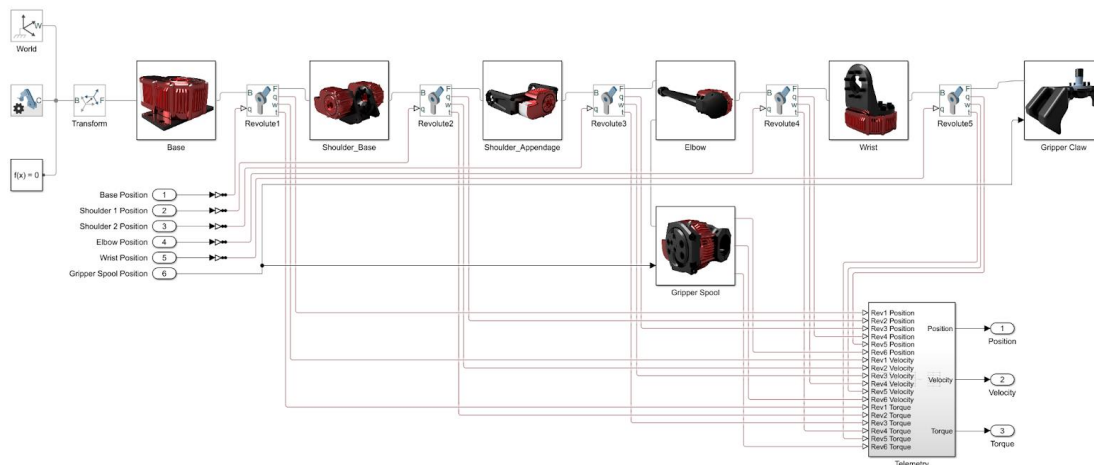

Figure 14: Complete HEBI Arm Block Diagram
21. Navigate back to the “HEBI Arm” subsystem and complete it by wiring up the remaining connections from the position connection ports to their respective revolute joints’ input ports, and from the revolute joints’ sensing output ports to their respective input ports on the “Telemetry” subsystem, as shown in figure 14.